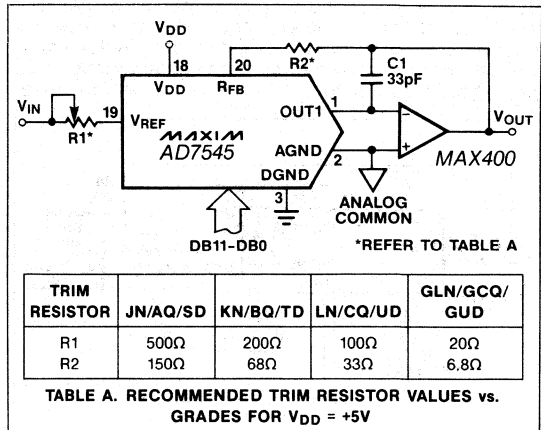
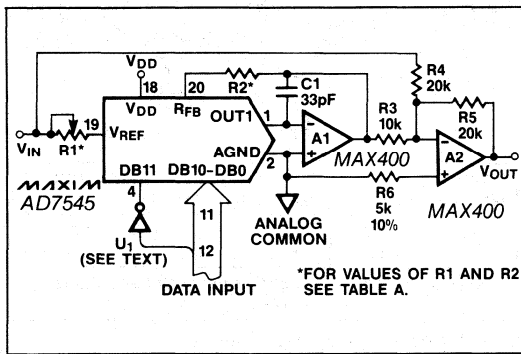
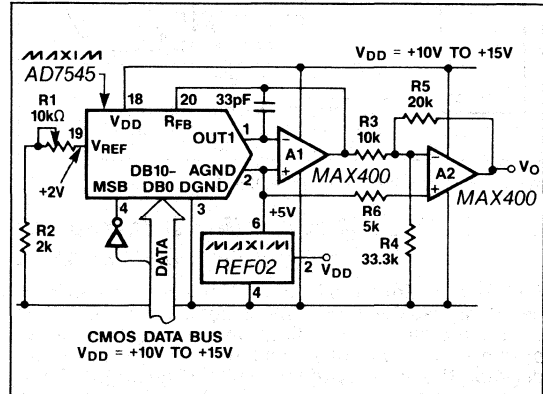

Figure 3. Unipolar Binary Operation
Figure 4. Bipolar Operation (2's Complement Code)
Figure 8. Single Supply "Bipolar" 2's Complement D/A Converter
**Note 1:** Using internal feedback resistor, RFB. DAC register loaded with 1111 1111 1111. Gain error is adjustable using the circuits of Figures 3, 4 and 8.
Either current output can be converted into a voltage externally by adding an output amplifier (Figure 3). The  $V_{REF}$  input accepts a wide range of signals including fixed and time varying voltage or current inputs. If a current source is used for the reference input, then a low temperature coefficient external resistor should be used for  $R_{FB}$  to minimize gain variation with temperature.
The most common configuration for the AD7545 is shown in Figure 3. This circuit is used for unipolar binary operation or two-quadrant multiplication. The
Table 1. Unipolar Binary Code Table for Circuit of Figure 3
In many applications the gain adjustment will not be necessary, especially when using the "G" suffix parts with guaranteed maximum  $\pm 1$  LSB gain errors. In those cases and also when the gain is trimmed at the reference source, resistors R1 and R2 in Figure 3 can be omitted. However, if the trims are desired and the DAC is operated over a wide temperature range, then low tempco ( $<300ppm/^{\circ}C$ ) resistors should be used for R1 and R2.
With the circuit configuration shown in Figure 4, the AD7545 operates in the bipolar, or 4-quadrant multiplying mode. A second amplifier and three matched resistors, R3, R4 and R5 are required. These resistors must be of the same material (preferably metal film or wire-wound) for good temperature characteristics, and they should match to 0.01% for 12-bit performance.
Table 2. 2's Complement Code Table for Circuit of Figure 4
To adjust the circuit with offset binary code, load the DAC with a code of 1000 0000 0000 and trim R1 for a 0V output. With R1 and R2 omitted, an alternative zero trim is to adjust the ratio of R3 and R4 for 0V out. Full scale can be trimmed by loading the DAC with all "zeros" or all "ones" and adjusting the amplitude of  $V_{REF}$  or varying R5 until the desired positive or negative output is obtained. In many applications the gain adjustment will not be necessary, especially when using the "G" suffix parts with guaranteed maximum  $\pm 1$  LSB gain errors. In those cases and also when the gain is trimmed at the reference source, resistors R1 and R2 in Figure 4 can be omitted. However, if the trims are desired and the DAC is operated over a wide temperature range, then low tempco ( $< 300 \text{ppm}/^\circ\text{C}$ ) resistors should be used for R1 and R2.
Figure 6. Differential Nonlinearity vs.  $V_{DD}$  for Figure 4 Circuit. Reference Voltage = 2.5 Volts. Shaded Area Shows Range of Values of Differential Nonlinearity that Typically Occur for L, C and U Grades.
The unipolar and bipolar circuits in Figures 3 and 4 can all be converted to voltage output mode. For example, Figure 8 shows the 2's complement bipolar circuit of Figure 4 modified to work with an output range of +2V to +8V around an offset ground potential of +5V from a single supply,  $V_{DD}$ , of +10V to 15V. The REF02 reference is used to bias the AGND at +5V. The R1 and R2 resistors form a voltage divider together
Figure 7. Differential Nonlinearity vs. Reference Voltage for Figure 4 Circuit.  $V_{DD} = 15$  Volts. Shaded Area Shows Range of Values of Differential Nonlinearity that Typically Occur for L, C, and U Grades.